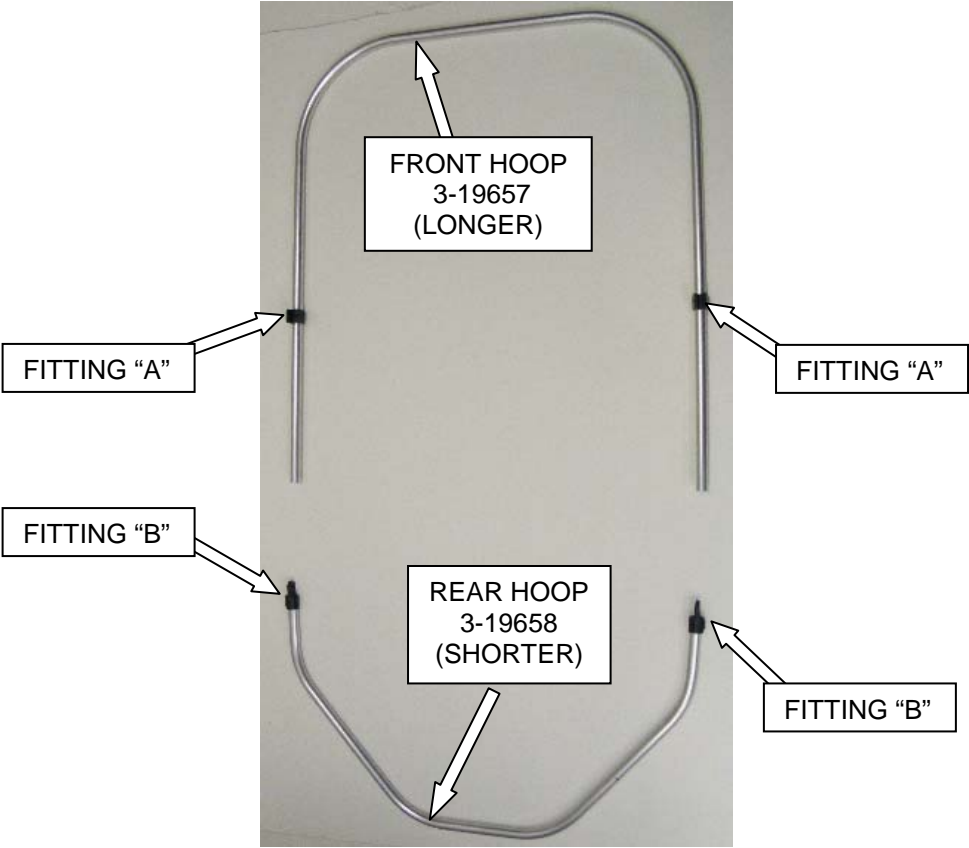

Figure 1
- 1. Remove contents from box and lay out the components (**Figure 1**).
3. Insert rear hoop into the rear sleeve of bimini cover with fittings "B" pointing upward (**Figure 1**).
4. Insert front hoop into the front sleeve of bimini cover with fittings "A" pointing upward (**Figure 1**).